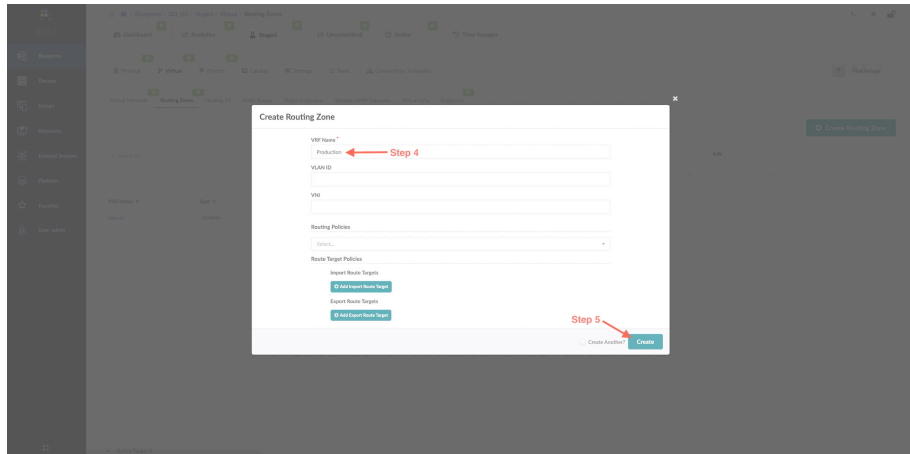

Figure 5.3 Adding A Routing Zone via Apstra
Step 4: For a simple Routing Zone in Figure 5.3, only a VRF Name is required. VXLAN and VLAN IDs are automatically assigned in later steps.